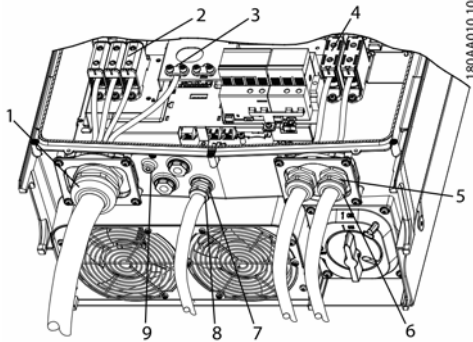

Figure 5.2 Overview of inverter with torque indications
If the blind plugs are removed (see (7) in figure 5.2 ), use the following fittings: 3, 3S, 4, 4X, 6, 6P.